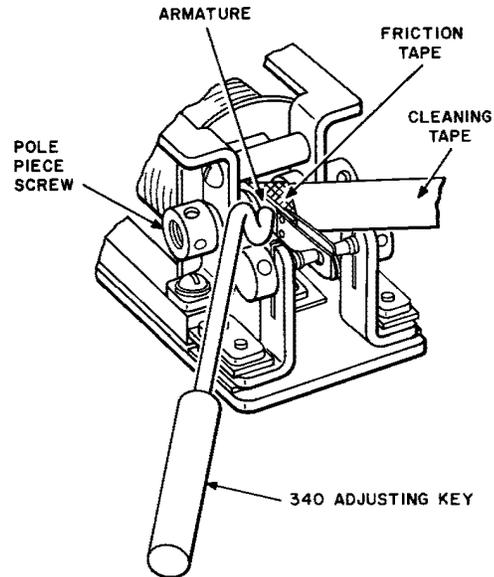

Fig. 50—Method of Cleaning Pole-Piece Screws on 206-, 209-, 215-, 227-, 228-, 231-, 239-, and 280-Type Relays
7.09 To remove metallic particles from the pole-piece screws, use a tool made out of a piece of thin stiff metal (preferably nonmagnetic) over which is wrapped a layer of friction tape with the stickier side toward the blade. Place the taped portion of the tool between the pole-piece screw and the armature. Using the 340 adjusting key, press the armature against the taped portion of the cleaning tool, as shown in Fig. 50, so as to cause any particles present to adhere to the tape. Do not rub the tape over the screw and armature as this tends to leave a residue from the tape on these parts. Do not use the tape after it has lost its tackiness.